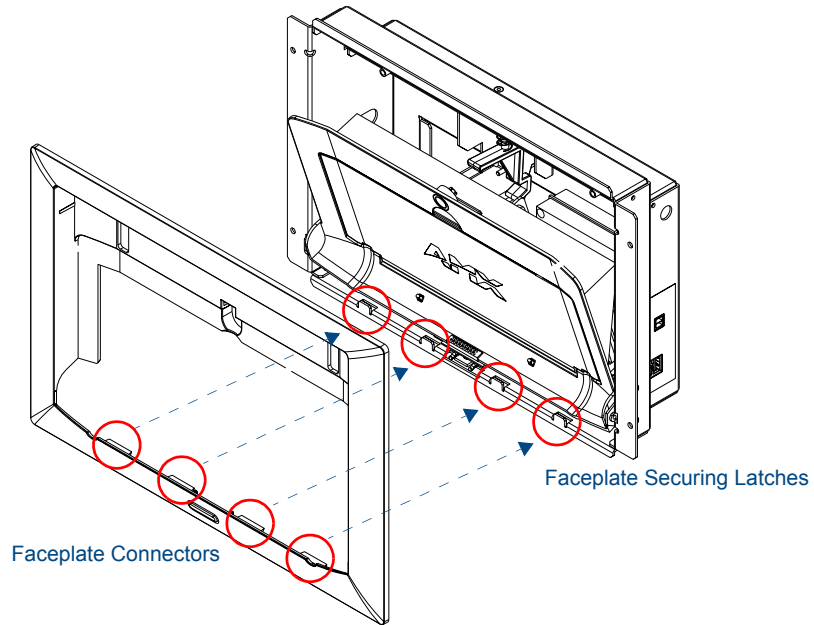

FIG. 7 Faceplate securing latch and connector locations
7. Grab the bottom rim of the faceplate and push it up (towards the support cradle), then pull it out, sliding the four faceplate connectors out of the latches along the bottom of the WDS (FIG. 7).
- Be sure to snap the Faceplate Connectors back into their respective Latches (located along the bottom rim of the faceplate - see FIG. 7 on page 7).